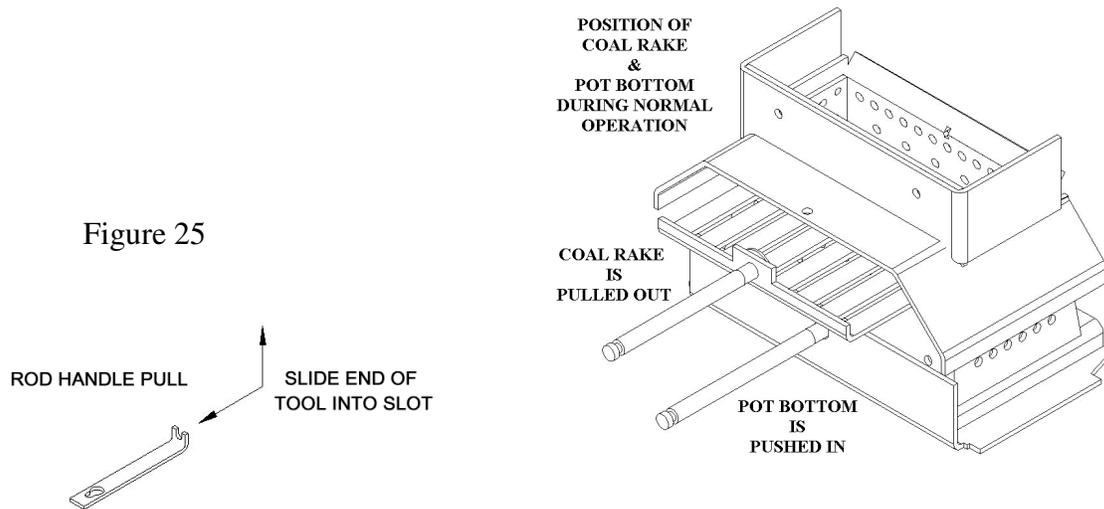

Figure 25
5. Dropping the coals back into the burn pot. At this time pull the coal rake back out of the burn pot to drop the coals in the pot. *See position of Coal Rake & Pot Bottom in figure 25 on page 38 for normal operation.*